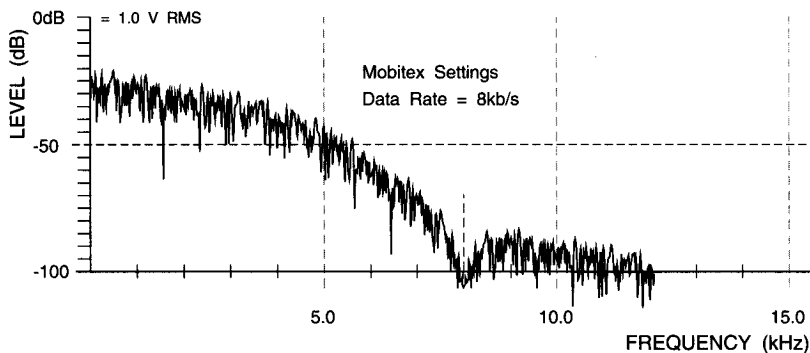

Fig.9 Typical Output Frequency Spectrum for a Random Data Sequence (Tx Out, measured after  $R_s$ ,  $C_s$  combination)
The diagram below shows the theoretical RF bandwidth requirements when interfacing the FX909 baseband (Tx OUT) signal (Figure 9, above) to a radio transmitter. This plot assumes a perfect frequency modulator.
**Note** that particular repetitive data sequences, such as '1010 ....' will produce spectra which are markedly different to those shown in Figures 9 and 10.